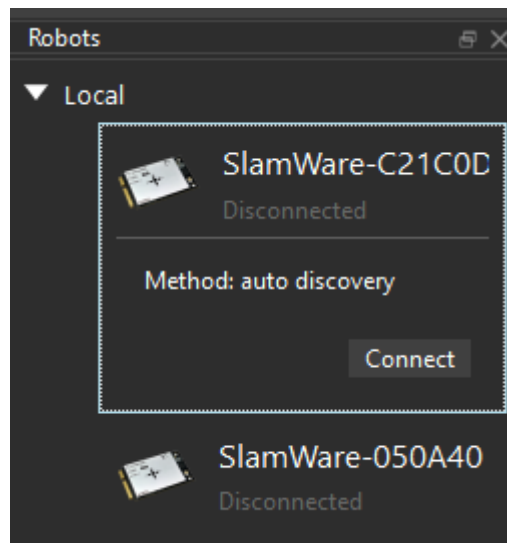

Figure 2.2.2 Connection by *Connect* button
1. Find the robot in the **Local** list or **Manual Connecting History** list, click the robot name to extend it, and then click **Connect** to connect to the robot. (as in Figure 2.2.2)